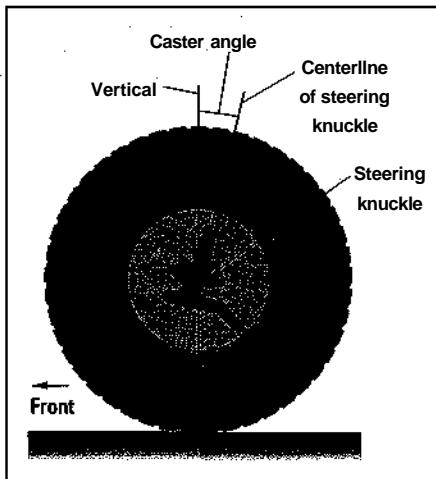

Figure 19-4:
- **Caster** has to do with the position of your steering knuckle as compared to a vertical line when viewed from the side (see Figure 19-4). If properly adjusted, it makes your wheels track in a straight line instead of weaving or shimmying at high speeds. Caster also helps return the steering wheel to a straight-ahead position after completing a turn.